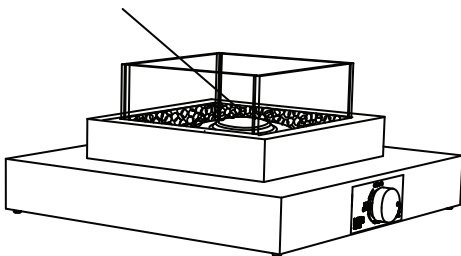

Figure 4
4. Clear small area of glass rocks away from the igniter cover (Figure 4).